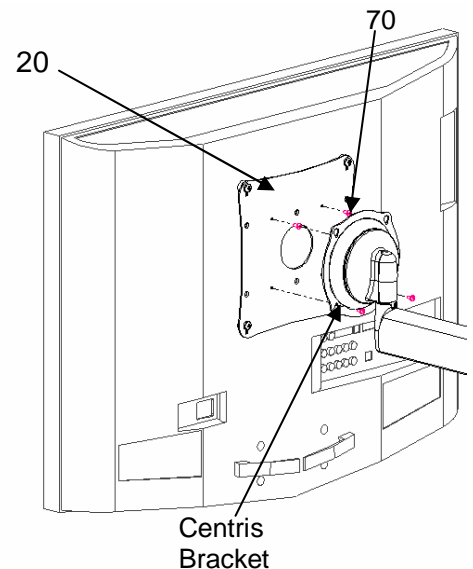

Figure 12. Mount Display to Centris Bracket
1. Start two M4 x 8mm Phillips pan head screws (70) into top mounting holes on VESA Plate (20).
2. Align mounting holes on Centris bracket with screws installed in Step 1 (see Figure 12).
3. Install two remaining M4 x 8mm Phillips pan head screws (70) through bottom mounting holes of Centris bracket, and into VESA Plate (20).